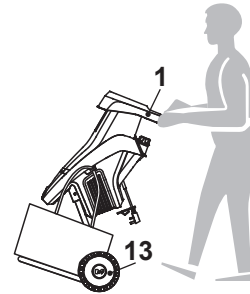

Fig. 14
4. Only transport the product by its transportation handle (1). Tilt the product towards you until it balances on the wheels (13). Then move it by its transportation handle (1) (Fig. 14).